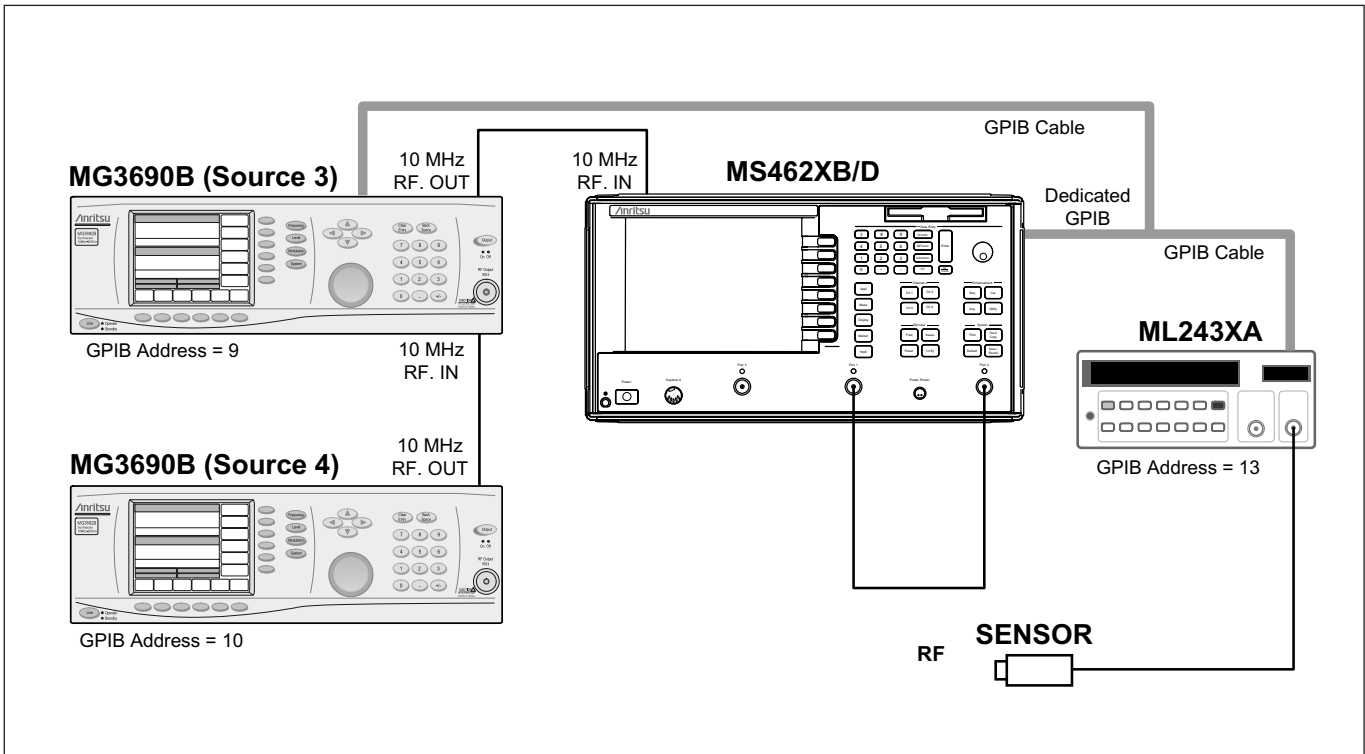

Figure 4. IF Receiver Leveling Connections
Step 16. Connect a thru line between the Calibrated VNA Port 1 and VNA Port 2 as shown in Figure 4.